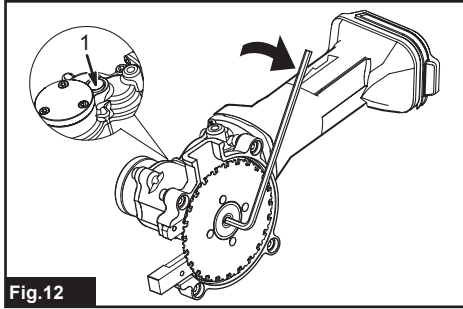

Fig.12
► **Fig.12: 1. Push (Lock Button)**